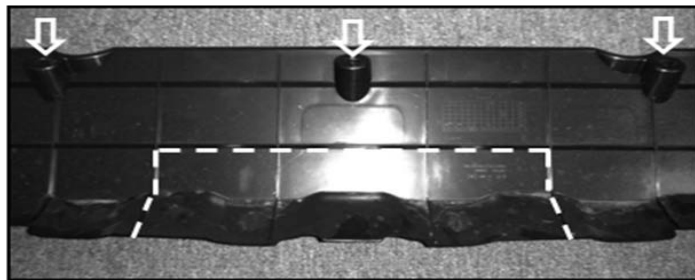

Fig 1
- Referring to the image below, cut out a rectangle, using the ribs on the panel as a guide, in the lower infill panel as shown in Fig 1.